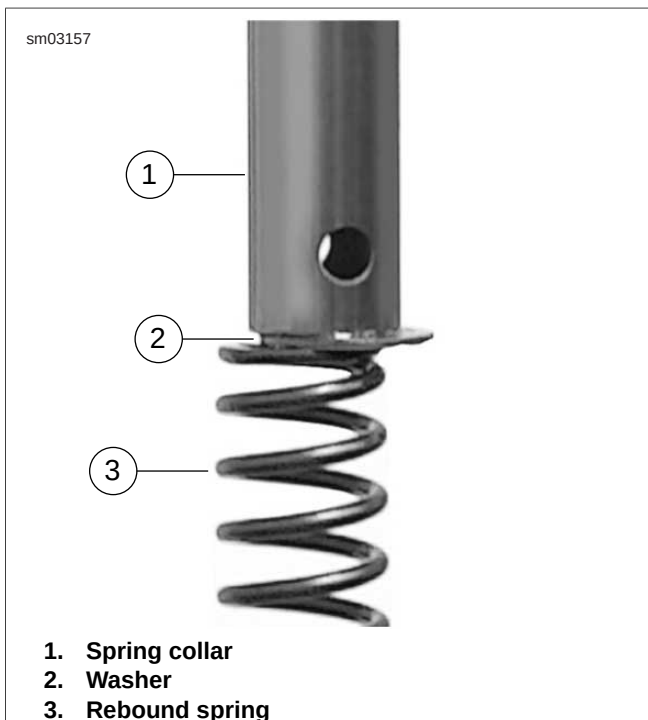

Figure 1-94. Collar, Washer and Spring Assembly
10. See Figure 1-94. Install rebound spring in fork tube (with tightly wound end at bottom), washer, and spring collar.